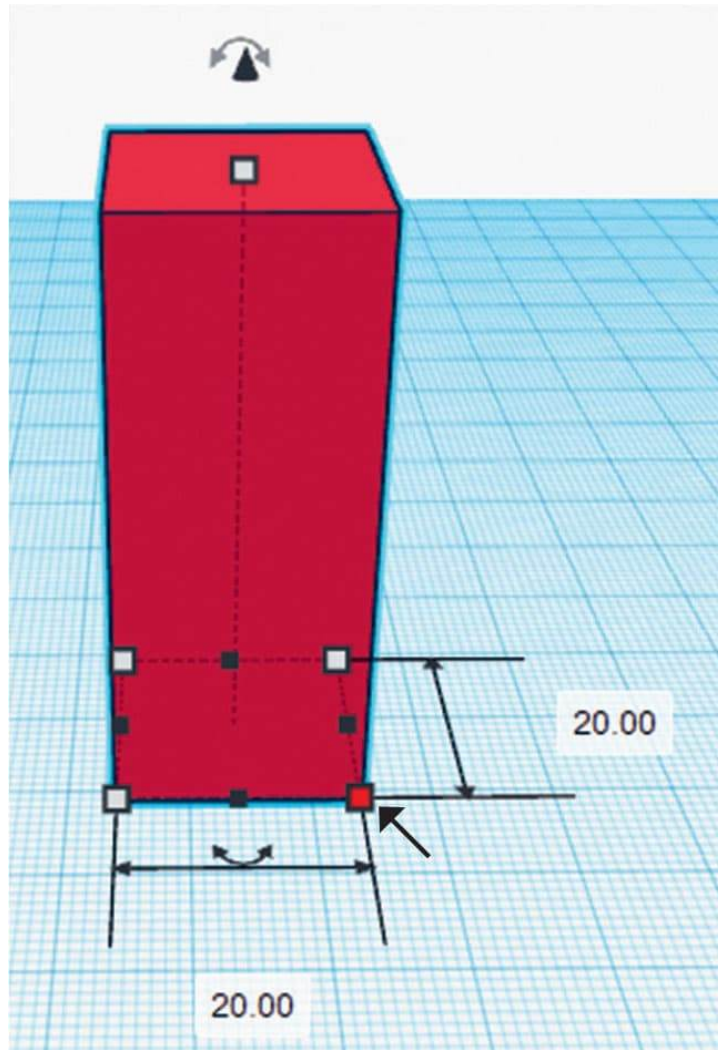

FIG. 4: Clicking on the white square size adjusting tool on the corner shows the dimensions of the sides.
4. Check the dimension of the sides to make sure they are still 20 mm by clicking on the small white square on any corner of the base (fig. 4).